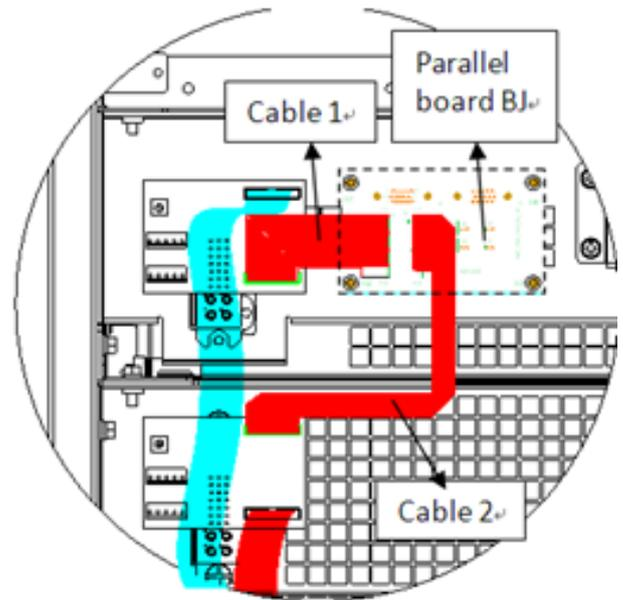

Fig. 37. Installation of Parallel Signal Board BJ (b)
- Install parallel signal board BJ as fig.37
- Connect cable 1 and cable 2 as fig.37